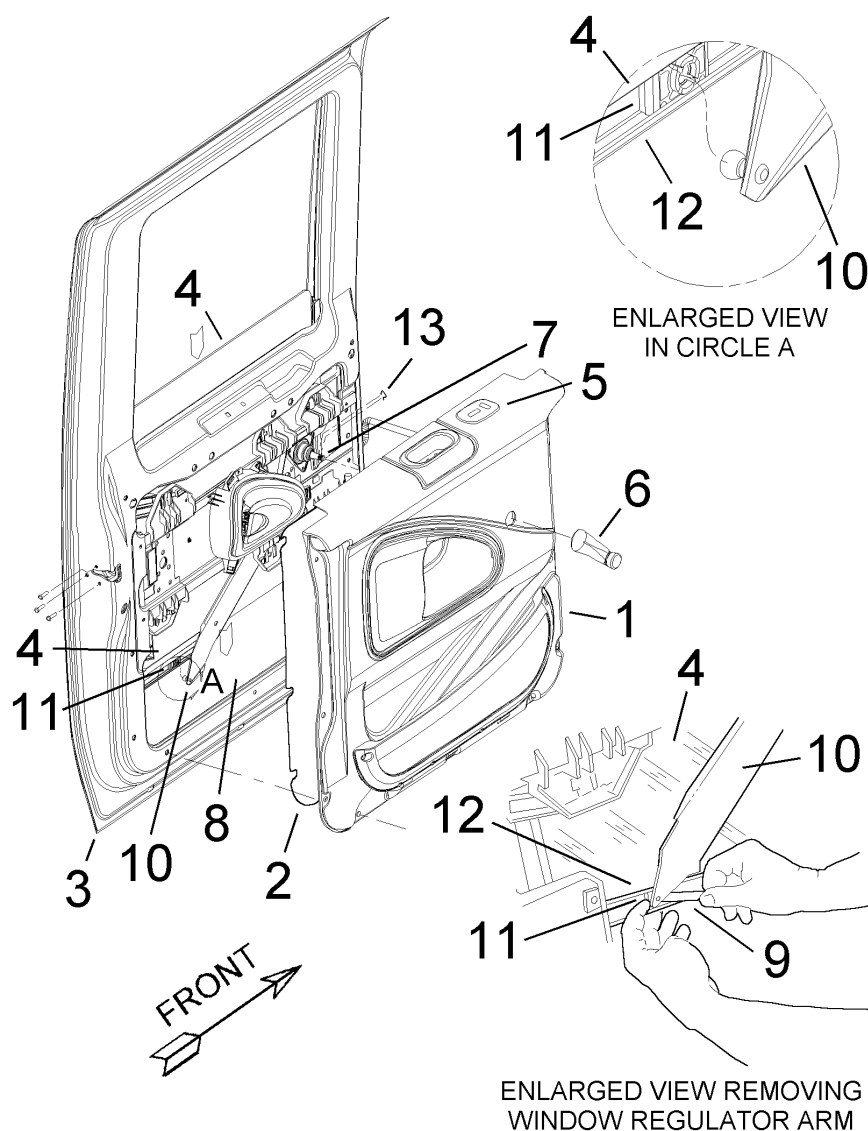

Figure 1 Rear Crew Cab Door Components
2. Remove rear door trim panel (Figure 1, Item 1). If the door is equipped with electric window and door lock, disconnect the harness from the door trim panel.
3. Remove the inner door panel water shield (Figure 1, Item 2).
4. Working through the door access opening (Figure 1, Item 8), carefully pry the window regulator arm (Figure 1, Item 10) from the slide block (Figure 1, Item 11), located in the slide rail (Figure 1, Item 12).